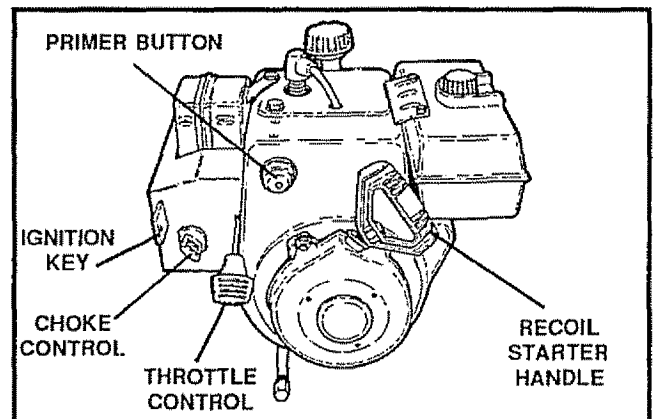

FIG. 9
- To stop the engine, push the throttle control lever to "STOP" and pull out the ignition key (See Fig. 9).